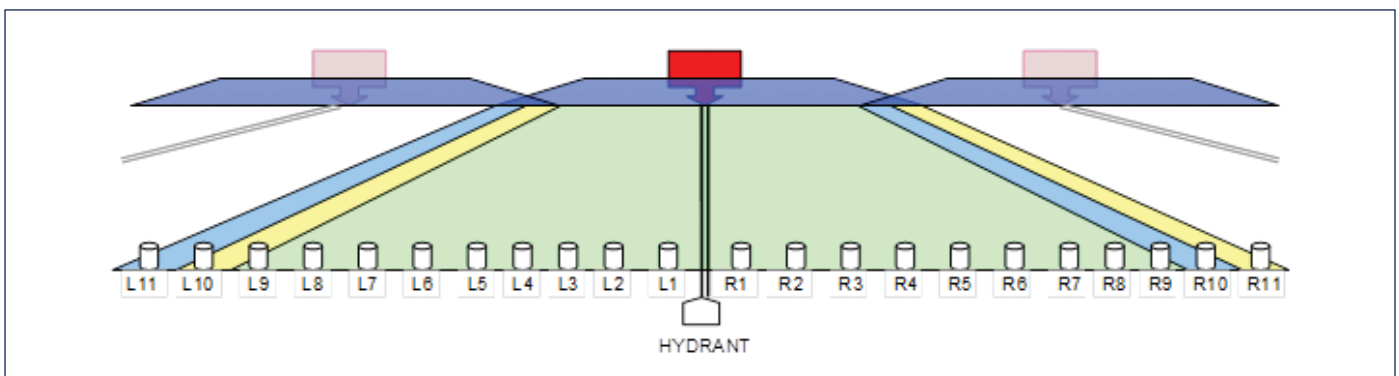

Figure 2.2. Collector bucket positions relative to irrigation lane and wetted width
1. Place one bucket half way between the edge of the lane and the edge of the wetted width (see ‘L11’ in Figure 2.2)
2. Mirror this inside the edge of the run, setting another bucket at the same spacing from the edge of the run (see ‘L10 in Figure 2.2)
3. Arrange nine more buckets at even spacing to cover the area back to the centre line (the hose or cable) (see ‘L9–L1’ in Figure 2.2). The spacing may be different to overlap buckets